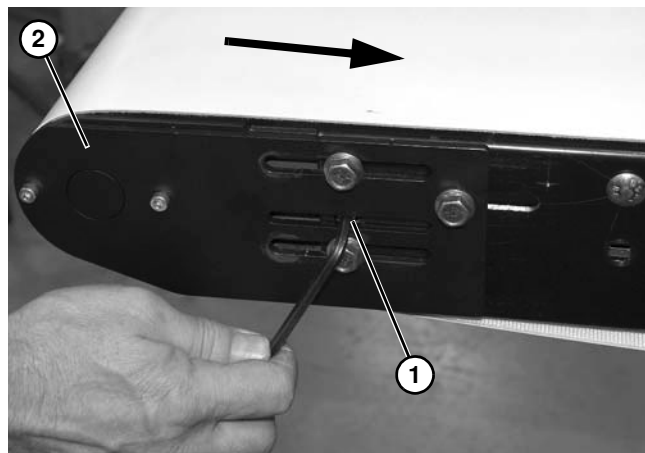

Figure 68
5. Loosen the tensioner screw (**Figure 68, item 1**) on each side of conveyor to move the tension head plate assembly (**Figure 68, item 2**) inward and fully release tension on belt.